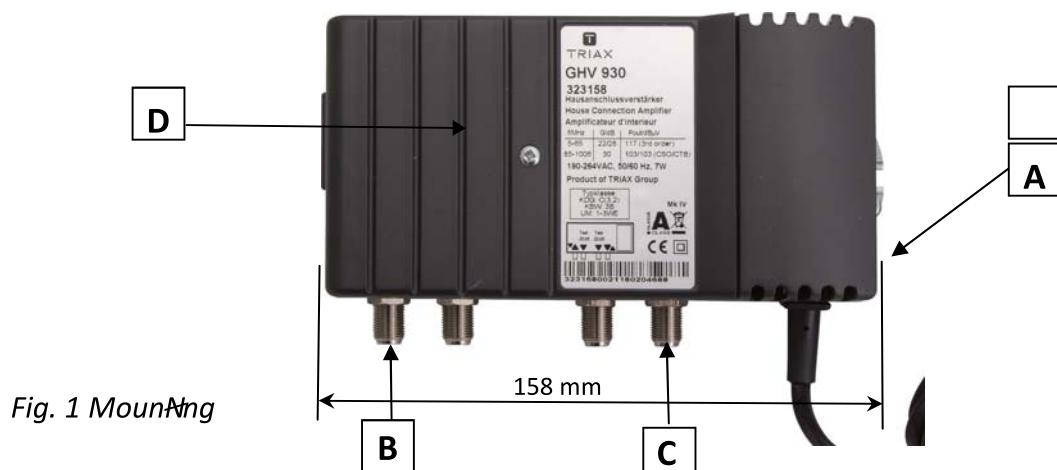

Fig. 1 Mounting
- ☞ Fasten the Amplifier according to its measurements (See Fig. 1.) on the wall.
Remove the top cover of the Amplifier by removing screw D (see Fig. 1)